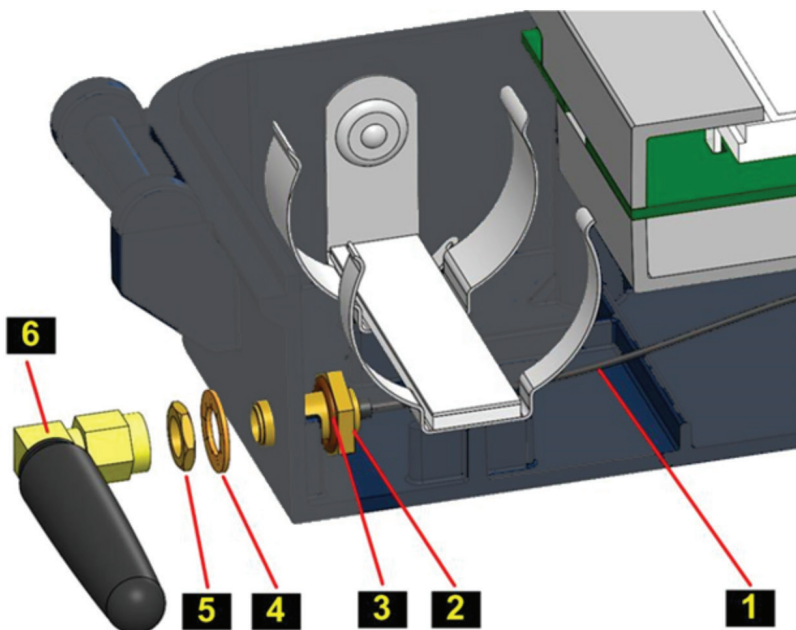

Fig. 42 Installation of the antenna connector
4. Installation of the antenna cable (Fig. 42)